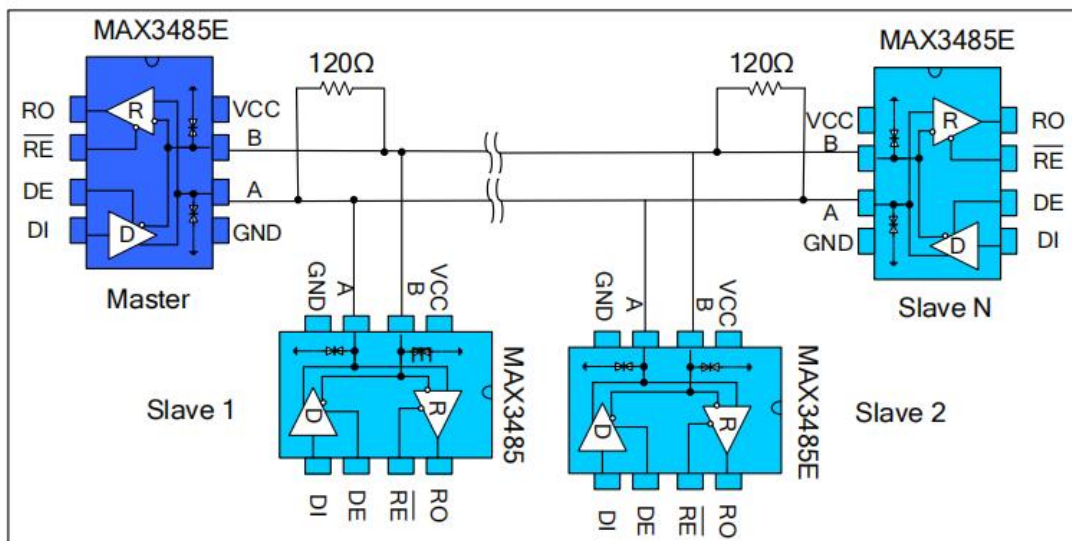

Figure 9 Bus type RS485 half duplex communication
4. 1Bus Networking: MAX3485E RS485 transceiver is designed for bidirectional data communication on multi-point bus transmission line. Figure 9 shows a typical network application circuit. These devices can also be used as linear repeaters with cables longer than 4000 feet. In order to reduce reflection, terminal matching should be carried out at both ends of the transmission line with its characteristic impedance, and the length of branch lines outside the main line should be as short as possible